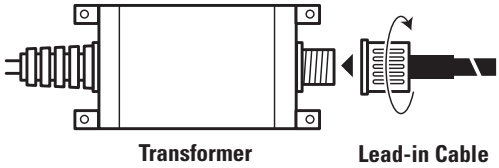

FIG.03
1. Connect the male connector of the lead-in cable with the female connector of the transformer. Turn the weatherproof cap clockwise to make the connection water tight (Fig.03).